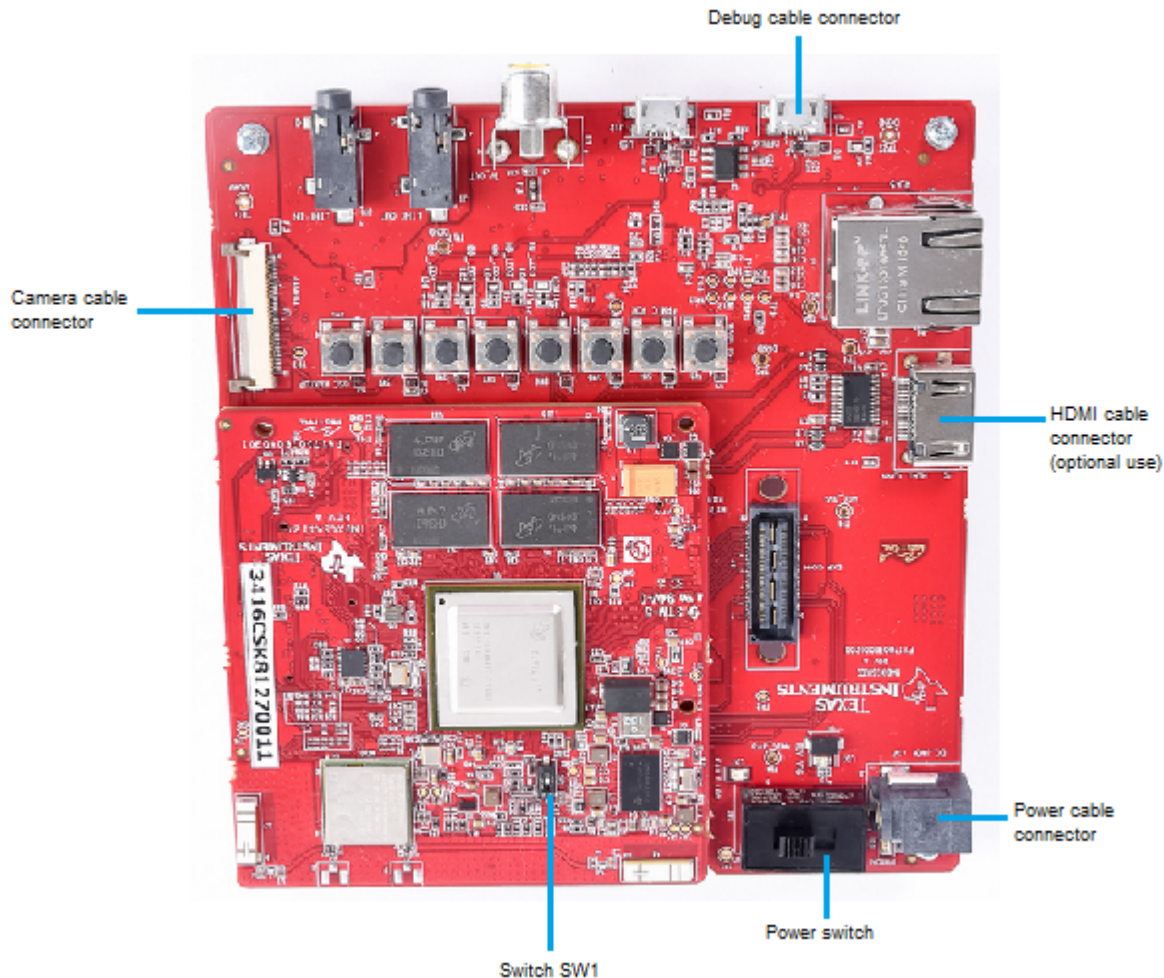

Figure 2. DM8127 CSK Connections (1 of 2)
2. Set switch 1 (SW1) to ON (see Figure 2).